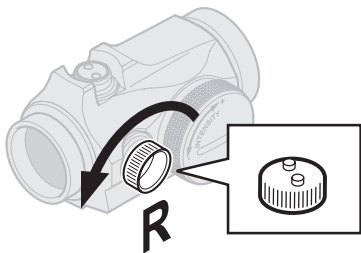

Fig. 4 → 2.3
- a Open lens covers (11) and (12).
- b Adjust the intensity (8) to a comfortable setting for the red dot to contrast against the target.
- c To access elevation adjustment screw (4) and windage adjustment screw (5), remove the adjustment cap (2) and the cap (3).
- d The adjustment cap (2) or the tool (13A) must be used to turn the adjustment screws. Place the knobs on the adjustment cap (2) into the recesses on the adjustment screws (4) and (5).
- e Windage adjustments (See Fig. 4)